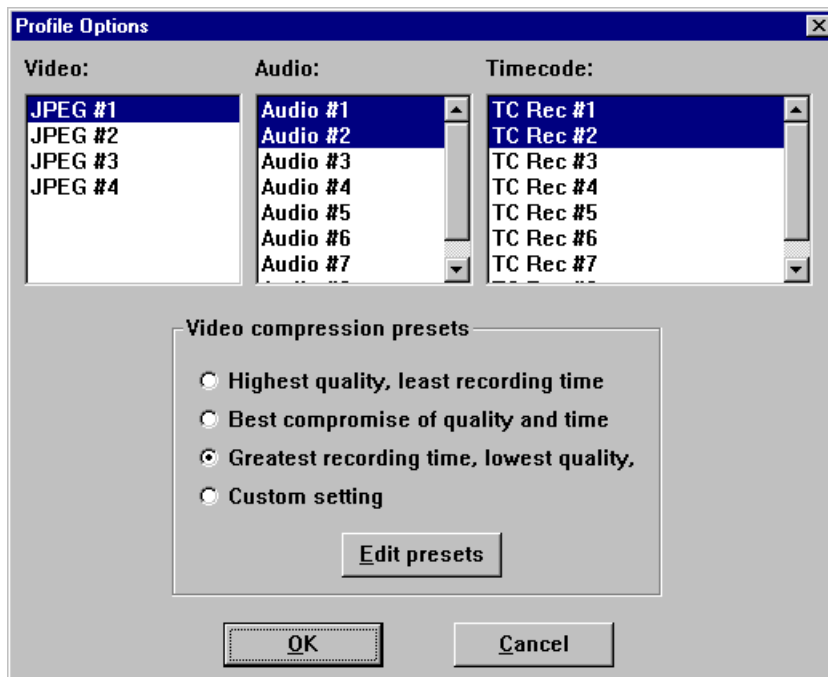
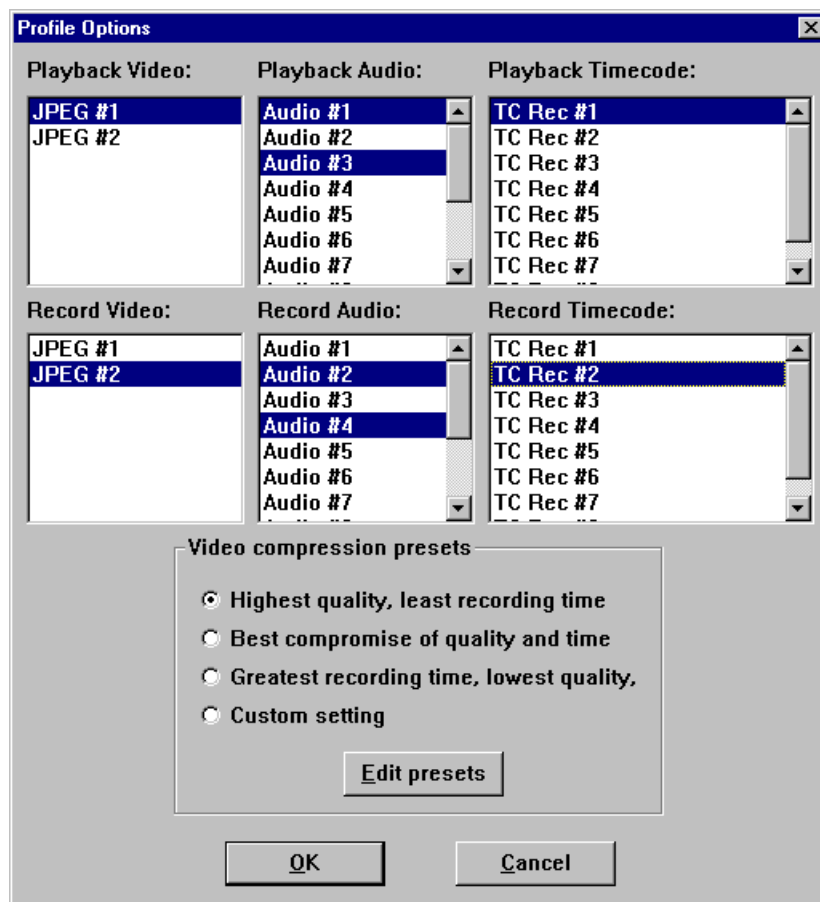

Figure 48. Profile Options dialog box
Figure 49. Profile Options dialog box (BVW [insert-edit] only)
2. Choose **Controller | Configure** to open the Profile Options dialog box for the selected panel. Figure 48 illustrates the standard Profile options with an example configuration selected; Figure 49 illustrates the Profile Options dialog box for BVW [insert-edit], also with appropriate selections shown in the example.
2. Choose **Controller | Configure** to open Profile Options (see Figure 48 on page 77).